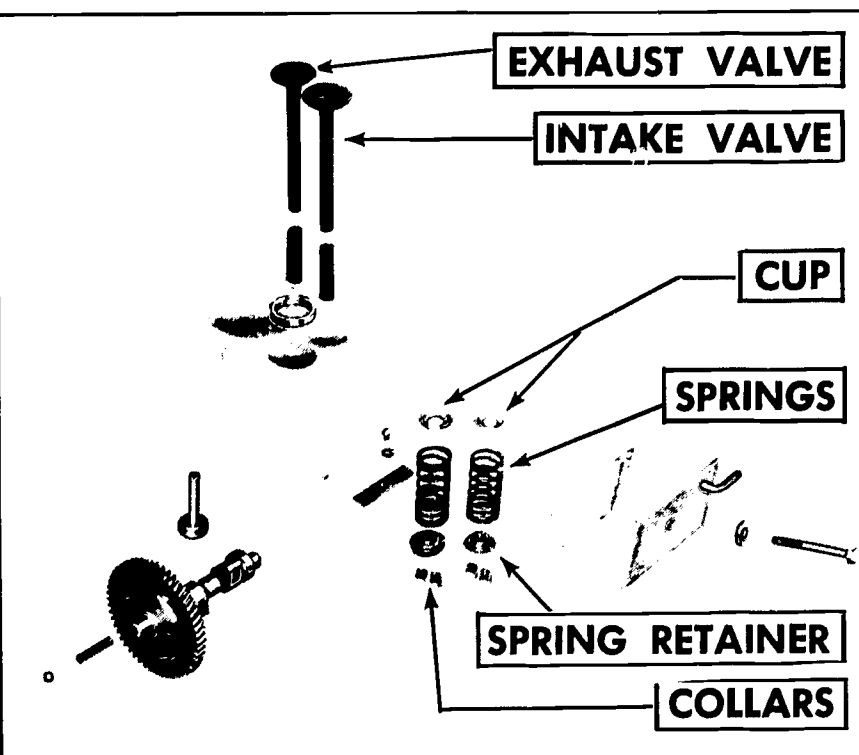

FIGURE 196. Valve assembly removed from the engine.
5. Remove the valve springs and cups (Figure 196).
4. *Check valve-spring retainer and retainer locks for wear (Figure 196).*